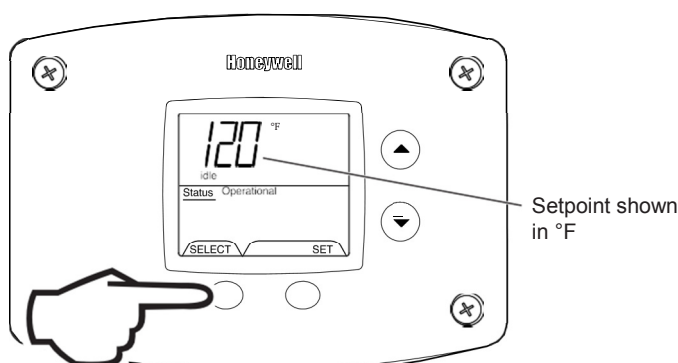

Figure 24
- Pressing 'SELECT' button will return display to setpoint in format selected (°F or °C) immediately (Fig. 24).